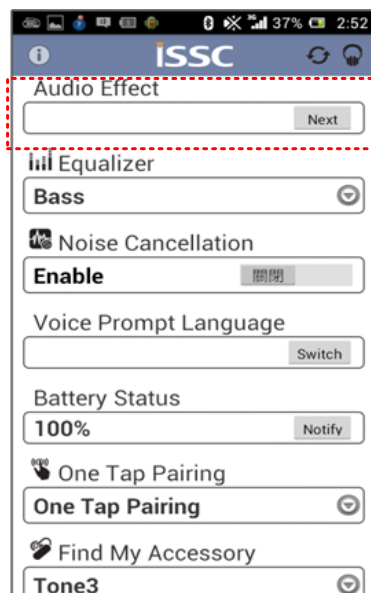

Figure 15: APP-enabled audio effect control.
The “Audio Effect – Mask Selection” checkbox group is to select what combinations of audio effects can be selectable by either external buttons or APP (see Figure 15, but only on Android phone). In the
Step 3: The principle to adjust the MIC gain to a suitable value. It is not necessarily good to set the MIC to its maximal level because the slope overload effect, as shown in Figure 15, caused by the CVSD codec itself would naturally suppress the high frequency parts and makes it look like a low pass filter. This effect would distort the near-end speech and make it not as clear as the softer MIC gain levels.